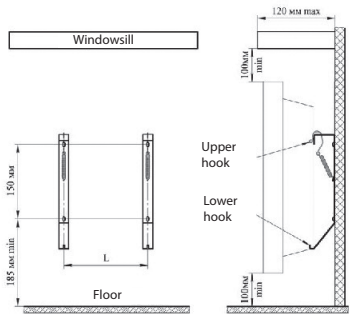

Fig. 1
5.4 For stationary installation of the convector, mark the mounting holes on the wall, referring to Figure 1 and Table 2. Fix the brackets for installing the convector in any way possible, ensuring their reliable fastening during the entire life of the convector.
Align the rectangular holes on the back of the convector with the upper hooks (Fig. 1) of the brackets and put the convector on the hooks.
Warning! It is strictly prohibited to turn on and operate the convector without fixing it to the brackets on the wall or on the floor without the installed supports. Turning on and operating the convector is allowed only in the position indicated in Fig. 1 (intake grid down). When you turn on the convector for the first time, the smell of evaporation of preservation materials is possible. It is recommended to ventilate the room.